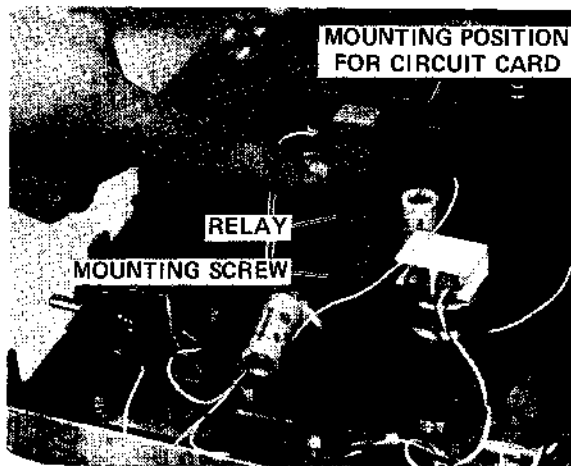
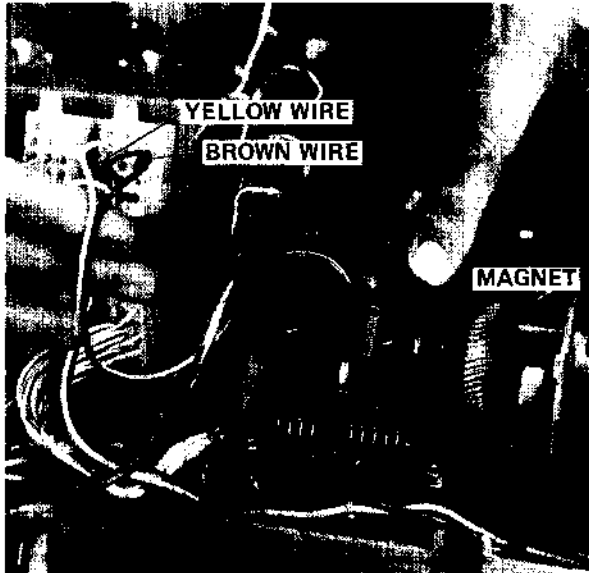

Figure 1. Relay Circuit (Alternate)
Figure 2. Distributor Trip Magnet
4. A relay circuit must be introduced into the paper tape reader drive circuit. The recommended circuit consists of a relay, a resistor, a capacitor and suitable mounting fixture. An alternate circuit utilizes a thyrector for suppression of inductive spikes. This change requires the assembly of a small "vector" board with the relay circuit on it. It may be mounted in the teletype by using two tapped holes in the mounting plate shown in Figure 1. The relay circuit may then be added without alteration of the existing circuit. (See Figures 2, 3, and 6.) That is, wire "A", to be connected to the brown wire in Figure 2, may be spliced into the brown wire near its connector plug. The "line" and "local" wires must then be connected to the mode switch as shown. Existing reader control circuitry within the teletype need not be altered.
SEE FIG. 1